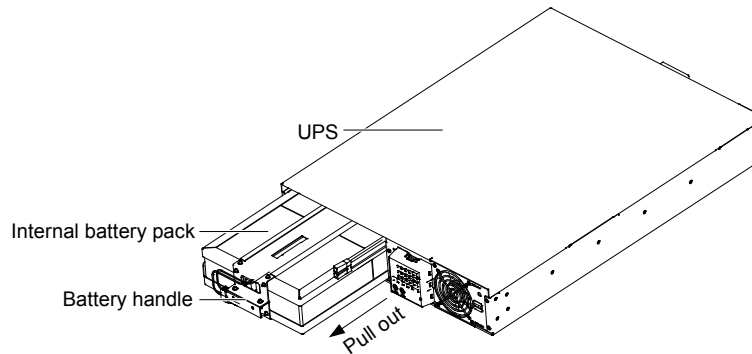

Figure 6-3 Pulling out the internal battery pack
Step 4: Grasp the battery handle, and pull the internal battery pack out of the UPS, as shown in Figure 6-3.